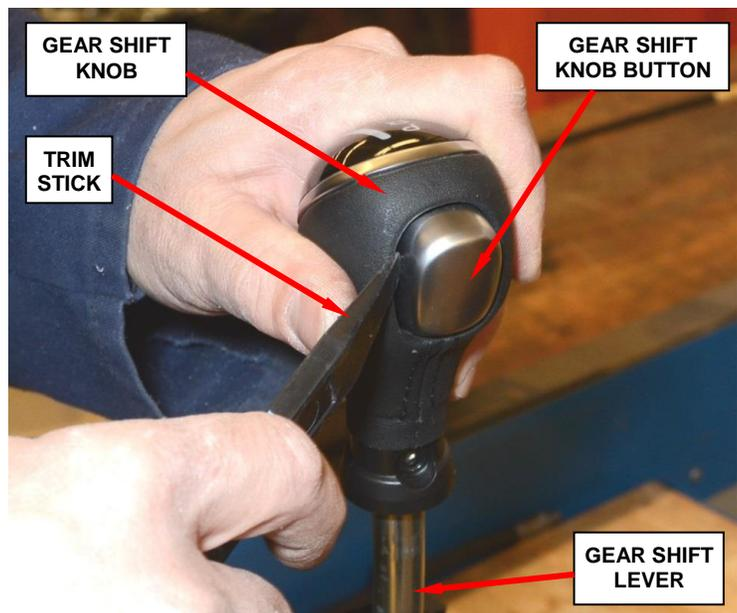

Figure 9 – Gear Shift Knob Button
- a. Using a trim stick, carefully remove the gear shift knob button (Figure 9).